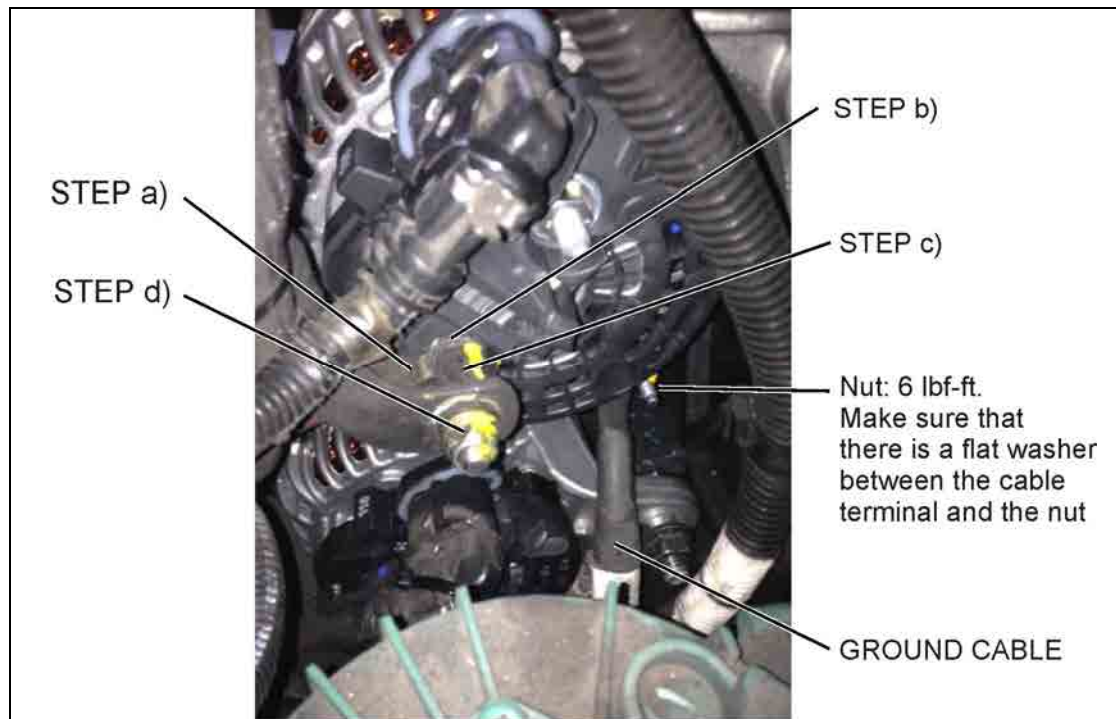

FIGURE 24
- Install jumper cable (a.k.a. positive cable) onto **B1+** stud terminal on upper alternator (FIGURE 24).
- Place one new flat washer #5001341 against the cable ring terminal (FIGURE 24).
- Screw and tighten the adapter stud #564590 (torque: 10 lbf-ft) (FIGURE 24) prior installing power cable.
- Fit the power cable terminal onto adaptor stud, place one new flat washer #5001341 against the power cable terminal and screw a new nut #5001787 (nut torque: 10 lbf-ft) (FIGURE 24).
- Fit the ground cable onto the alternator ground stud, place one new flat washer #502573 against the ground cable terminal and screw a new nut #5001182 (nut torque: 6 lbf-ft) (FIGURE 24).